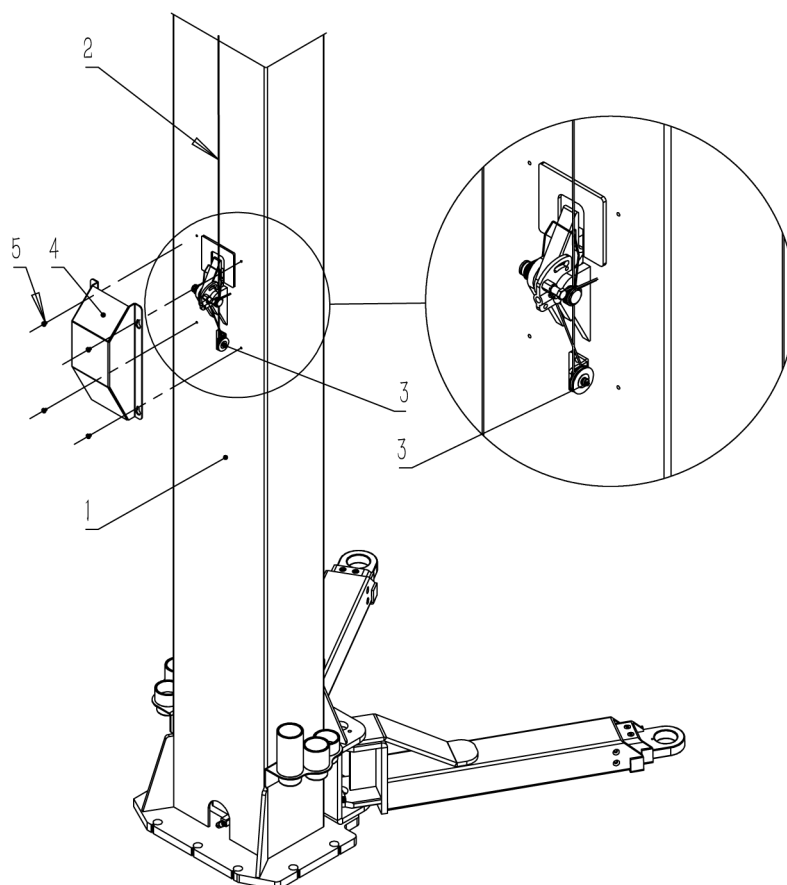

FIG 12
Step 8: Unlock wire rope installation (See Fig12)